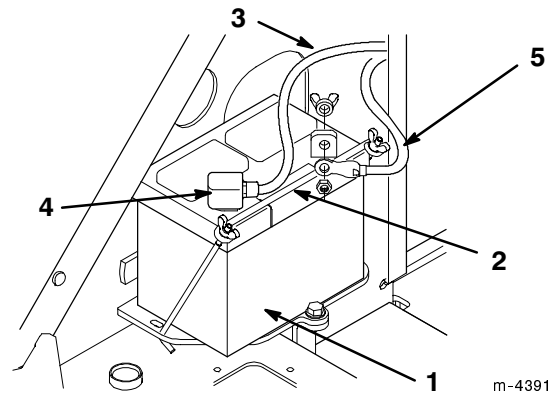

Figure 3
2. Remove the wing nuts and bar securing the battery (Fig. 3).
8. Install the battery into the chassis (Fig. 3).
9. Secure the battery with the bar and wing nuts removed previously (Fig. 3).
10. Using the bolt and wing nut supplied with the battery, connect the positive (red) cable to the positive (+) battery post (Fig. 3). Slide the rubber cover over the battery post.
11. Using the bolt and wing nut supplied with the battery, connect the negative (black) cable to the negative (-) battery post (Fig. 3).